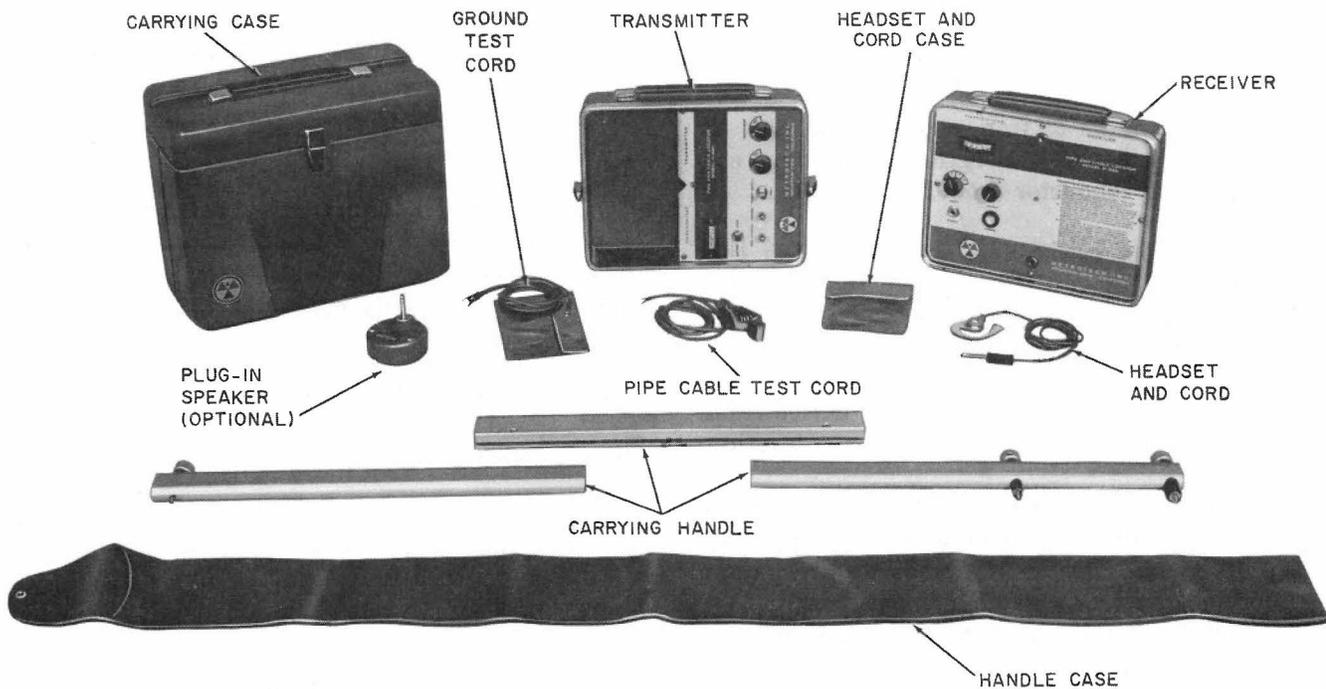

Fig. 12—Metrotech Model P-440 Pipe and Cable Locator
11.03 The Metrotech Model P-440 pipe and cable locator (Fig. 12) consists of a directional radio-type transmitter, a directional radio-type receiver, a carrying handle, headset and cord with case, ground test cord, and a pipe cable test cord. A carrying case for housing the transmitter and receiver and a bag for storage of the carrying handle are furnished with the test set.